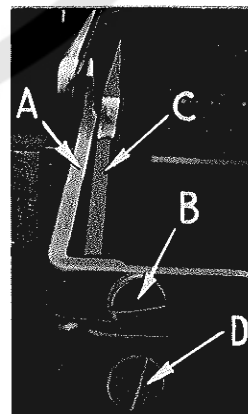

Fig. 6
Set rear needle guard (A, Fig. 6) as high as possible, without interfering with either lower looper or lower spreader, but still in position to deflect needle forward .002-.004 inch (.051-.102 mm). Screw (B) is used to set rear needle guard. Make sure there is no interference between rear needle guard and lower looper or spreader.
Assemble front needle guard (C, Fig. 6). When spreader is springing needle off back guard, set front needle guard as close as possible to needle without touching. Screw (D) is used to adjust and set front needle guard. After this setting make sure there is no interference between needle guards and feed dog.